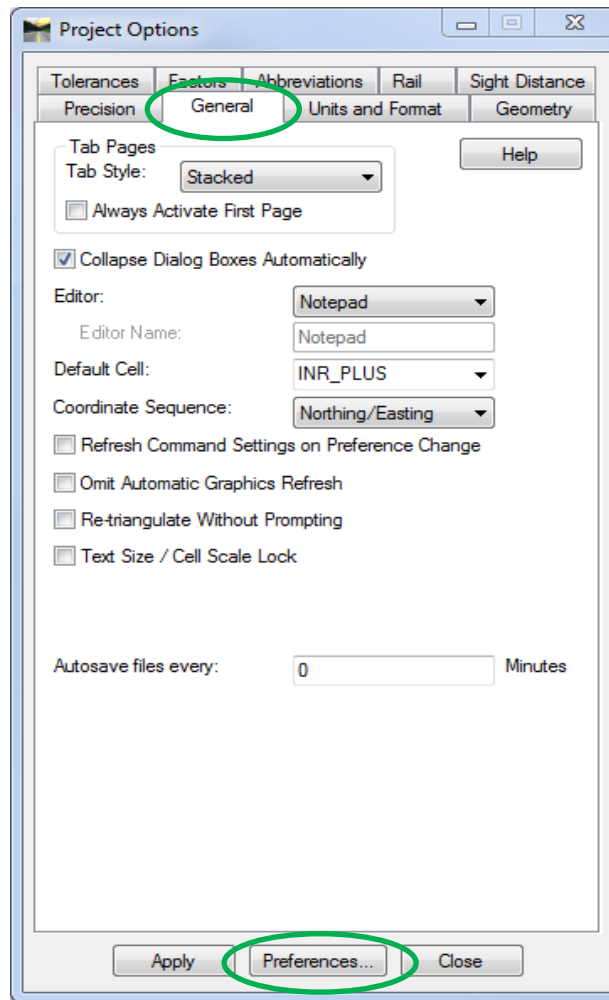

Figure 1-12 InRoads Project Options Box
D. From the InRoads Menu Bar select **File < Project Options**. See Figure 1-12